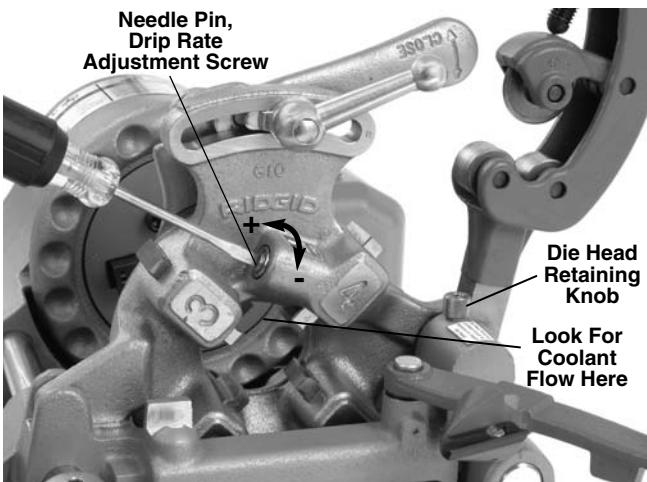

Figure 7 – Adjusting Coolant Drip Rate
18. Move the die head down into the threading position. Depress and hold the foot switch and look for coolant flow between die 3 and 4 on the die head (*See Figure 7*). It may take up to 10 seconds for the coolant to start flowing if the die head has been off the machine or sat for an extended time. Coolant should be dripping at a rate of at least 1 drop per second. Too high a drip rate wastes coolant, while too low a drip rate can cause die chipping, poor quality thread and high thread temperatures.
19. To adjust the coolant drip rate, while depressing the foot switch, use a flat blade screwdriver to turn the needle pin on the die head (*see Figure 7*). Clockwise needle pin rotation decreases drip rate, while counterclockwise rotation increases drip rate
1. With machine unplugged, rotate the die head retaining knob (*Figure 7*) on the carriage counterclockwise to unlock the die head post. Remove the die head from the carriage.